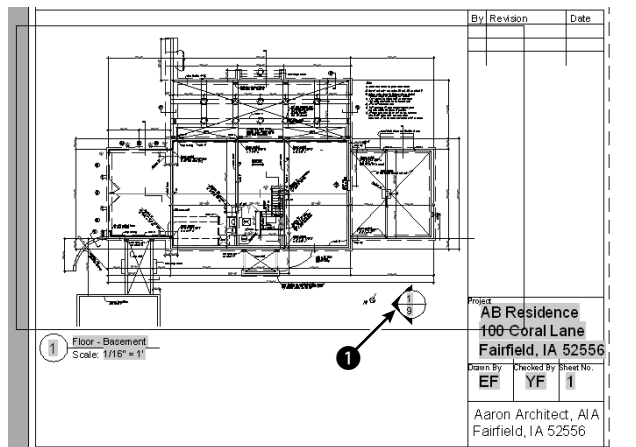

Figure 26-26: The basement floor plan.
5. Click the Resource Drawings tab again. Right-click `Floor - Basement` and choose Place on Sheet. Move the cursor onto the drawing area. (You may want to auto-hide the Sheet Set Manager at this point.) Right-click and choose `1/16"=1'`. Place the viewport all the way to the left of the layout. (The view doesn't fit perfectly, but that's okay for this exercise.) The result should look like Figure 26-26, except without the callout block. (If you want, continue to place the floor-plan views on the floor-plan sheets, matching the 1st- and 2nd-floor views to the 1st- and 2nd-floor sheets. You can also do the same for the four elevation views.)
8. To place a callout bubble on the basement floor plan that references the Exterior Section sheet, choose that drawing from the Window menu.. Click the View List tab. This tab now lists the views that you just placed. Right-click the Section 2 view (the one that you're pointing to) and choose Place Callout Blocks ⇨ callout bubble-left arrow. At the prompt, pick ❶ in Figure 26-26. The fields in the callout block show the correct view and sheet numbers.